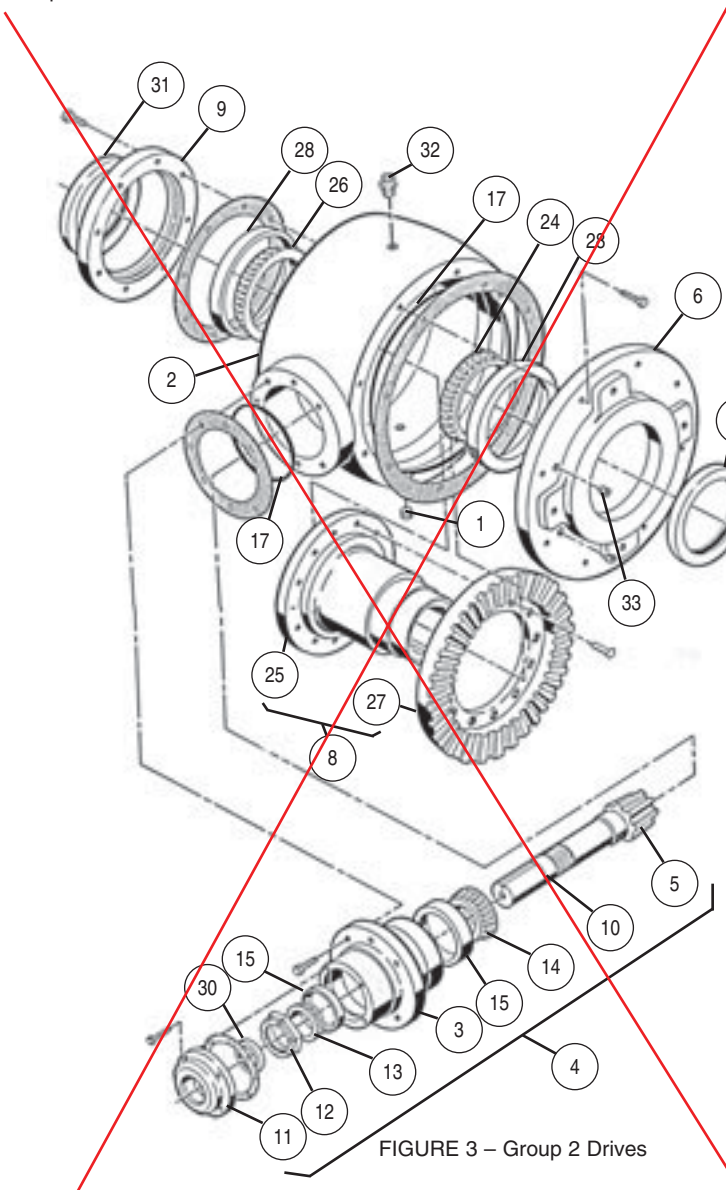
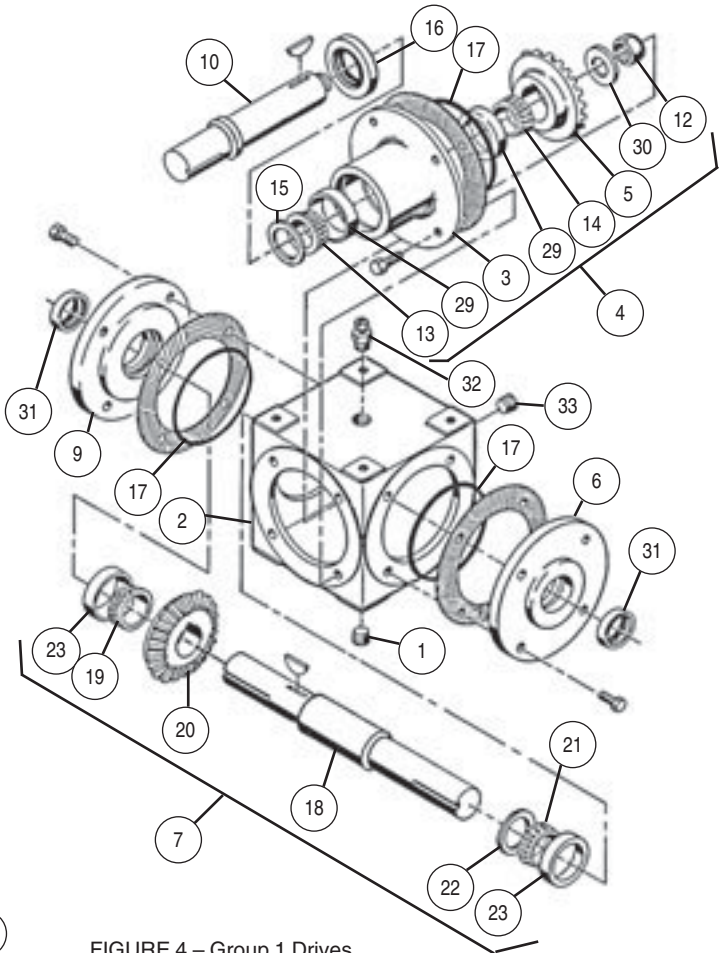

FIGURE 3 – Group 2 Drives
FIGURE 4 – Group 1 Drives
**Group 1, 2 and 3 Drives (Refer to Figures 3 and 4 unless otherwise noted.)**
2. Remove Pipe Plug (1) from bottom of Gear Case (2) and drain all lubricant from unit, preferably while unit is warm.
3. If old seals are to be salvaged, cover keyways with cellophane tape, plastic shim stock or paper. Remove cap screws from Pinion Housing (3) and CAREFULLY remove Pinion Shaft Assembly (4). Be careful to keep bearings clean and not to damage Gear (5) teeth.
4. Remove cap screws from Open Cap (6) which is opposite the gear side of Cross Shaft Assembly (7, Figure 4) and Output Sleeve Assembly (8, Figure 3) and remove, being careful to keep bearings clean and preventing damage to gear teeth. Slip open cap with seal off cross shaft or output sleeve.
5. Remove cap screws from Open Cap (9) on the gear side of Gear Case (2) and remove cap and shims. This completes disassembly of sub-assemblies.
**Group 1 Drives**—Secure Pinion Shaft (10, Figure 4) with a vise, and remove Lock Nut (12) and washer from shaft. Place pinion assembly in a press with threaded end of shaft up and back side of Bevel Gear (5) supported. Remove gear by pressing out.
~~**Group 2 Drives**—Secure Pinion Shaft (10, Figure 3) with a vise, on shaft extension and remove cap screws from Seal Carrier (11), and remove it and gasket from Pinion Housing (3). Loosen Lock Nut (12) and remove from pinion shaft. Remove remaining pinion assembly from the vise and place inner flange surface of the Pinion Housing (3) on the anvil of a press. Push shaft through pinion housing, thereby releasing Outer Bearing Cone (13). Whenever gear set is changed, it is recommended that the Inner Bearing Cone (14) be replaced. If bearings are to be replaced, remove Bearing Cups (15) from Pinion Housing (3) with a puller tool or if one is not available, gently tap opposite back sides of the bearing cups with a flat punch so that they are removed evenly and no damage occurs to pinion housing.~~
**Group 1 Drives**—Cross Shaft Assembly (7, Figure 4) is disassembled by placing Shaft (18) in a press with sleeve between anvil and gear.
~~**Group 2 Drives**—Bearing (24, Figure 3) is removed from Output Sleeve (25) on the side opposite the gear (G.O. side) by placing inner bearing race on the press anvil and pushing sleeve out of bearing. If Bearing (26) on the gear side needs to be replaced, it can be removed by tearing apart bearing and removing inner bearing race with a gear puller.~~
2. Replace Bearings Cups (15 and 28, Figure 3) and (23 and 29, Figure 4) in pinion housing and open caps being careful to remove any foreign particles in the counterbore. Bearing cup must seat squarely in counterbore (Groups 1 and 2 only). If cup must be tapped into place, use a rubber hammer or piece of wood to protect cup surfaces. Do not insert seals at this time.
3. When reassembling Pinion Shaft Assembly (4, Figures 3 and 4), Cross Shaft Assembly (7, Figure 4) and Output Sleeve Assembly (8, Figure 3), refer to Figures 3 and 4 so that all parts are included in their proper position. Be sure that parts are pressed tightly against one another and that no foreign material is included between them.
**Group 1 Drives**—Assembly of Cross Shaft Assembly (7, Figure 4) is essentially the reverse of the disassembly procedures except that when installing Bevel Gear (20) on shaft, first insert woodruff key. Gear is then heated in hot oil and then installed on shaft where it will cool and shrink fit.
The Pinion Shaft Assembly (4, Figure 4) is assembled as follows: Insert Spacer (15) on Pinion Shaft (10). Press Outer Bearing Cone (13) on shaft using inserting tool. Place threaded end of shaft into Pinion Housing (3) and press Inner Bearing (14) over shaft and into pinion housing with inserting tool. Install woodruff key and press Pinion Gear (5) on shaft. Assemble Pinion Washer (30) and Lock Nut (12) on shaft. Secure assembly in a vise as shown in Figure 8 and tighten lock nut enough to draw down gear and washer until the bearings bind. Nut is then backed off slightly (approx. 1/4 turn). Release pinion shaft from the vise and rap nut and shaft end sharply with a rubber mallet while supporting pinion housing on vise (see Figure 9). This will free up the bearings so that they will rotate freely with no noticeable end play. Do not install seals at this time. See FINAL ASSEMBLY AND BACKLASH ADJUSTMENT section to complete assembly.
grooves in caps and pinion housings. Apply grease liberally on surface of all O-rings before assembly into housings. Install Open Cap (9, Figures 3 and 4) on the gear side of Case (2, Figures 3 and 4) with 3 shims. Fasten caps and shims to gear case by torquing down cap screws securely. Insert Output Sleeve Assembly (8, Figure 3) or Cross Shaft Assembly (7, Figure 4) carefully through opening in case and into open caps. Install 3 shims and Open Cap (6, Figures 3 and 4) on the case side which is opposite the gear with cap screws and torque down all screws evenly.
Insert Pinion Shaft Assembly (4, Figures 3 and 4) carefully into Case (2) using 3 shims and cap screws. Gear backlash is adjusted by moving shims from the cross shaft or output sleeve open cap on the gear side to the side opposite the gear until gears rotate freely, with no noticeable backlash. At this point, move 2 shims back to the gear side end cap and the gears will then be properly adjusted. Note—if there are not enough shims left in open cap opposite gears to move 2 shims back—further gear adjustment must be made by removing 2 shims from between the pinion housing and case and repeat the entire procedure listed in this and two preceding paragraphs.
**Group 1, 2 and 3 Drives**—Oil seals (30 and 31, Figures 3 and 4) and (16, Figure 4) can now be installed in open caps and pinion housings. Slip Seal (1, Figure 10) over tapered end of Pilot Sleeve (2, Figure 10), making sure that the spring loaded lip of the seal is facing toward the Bevel Gear Drive. Slip pilot sleeve over shaft and down until end of sleeve is against bearing. Install Seal Driver (1, Figure 11) over pilot sleeve and tap seal down sleeve until it is seated in housing or cap. Remove seal driver and pilot sleeve. These installation tools are available from Hub City.
~~**Group 2 Drives**—The Output Sleeve Assembly (8, Figure 3) is assembled as follows: Ring Gear (27) must be riveted squarely and firmly to output sleeve. Position ring gear on flange of output sleeve and temporarily fasten with four cap screws and nuts. Position screws 90° apart and tighten in a crisscross sequence until gear is drawn down evenly. Rivet the holes between the cap screws in a crisscross sequence. Remove cap screws and rivet remaining holes. Riveting force must be sufficient to expand the rivet tightly in the holes and form a good rivet head.~~
~~Assembly of Pinion Shaft Assembly (4, Figure 3) is essentially the reverse of the disassembly procedure. Use 1 gasket between Seal Carrier (11) and Pinion Housing (3). Bearing adjustment is similar to Group 1 Drives and Figures 8 and 9 should be referred to. Do not install seals at this time. See FINAL ASSEMBLY AND BACKLASH ADJUSTMENT section to complete assembly.~~
**Group 1, 2 and 3 Drives**—Install O-rings (17, Figures 3 and 4) into O-ring
**Group 1, 2 and 3 Drives**—Clean and recoat Drain Plug (1, Figures 3 and 4) with pipe sealant and replace in bottom of gear case. Remove Fill and Breather Plug (32, Figures 3 and 4) and Oil Level Plug (33, Figures 3 and 4). Fill gear case with recommended lubricant and follow all recommended procedures as detailed in Lubrication and Installation Instructions which are included with each Drive.